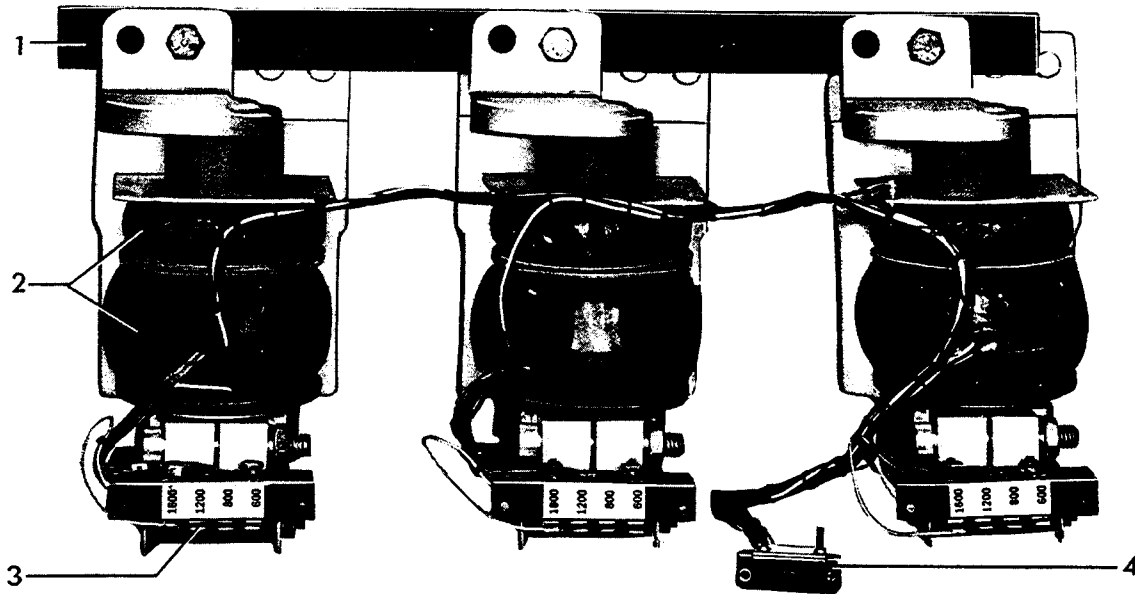

Fig. 32 (8039647) Magnetic Coil Assembly for AK-3-50 Breakers
1. The magnetic coils around the breaker conductors (Fig. 32 & 33).
**SENSOR Coils (AK-3-50) Only (Fig. 32)**